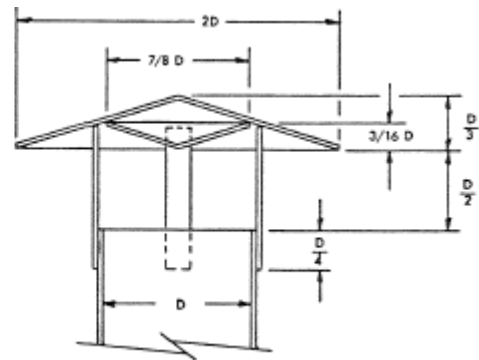

Figure 5, Stack Rain Cone
7.13 The stack should be protected against down drafts, back drafts, and rain with a simple flat or cone-shaped cap, (See Figure 5) Make sure the area between the cap and stack is at least equal to the area of the stack. Protect all steel work from corrosion.